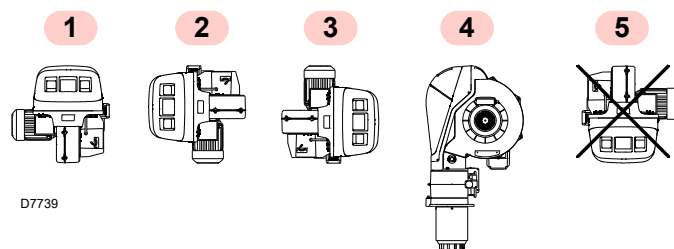

Fig. 9
- The burner is set up to operate only in positions **1, 2, 3** and **4** (Fig. 9).